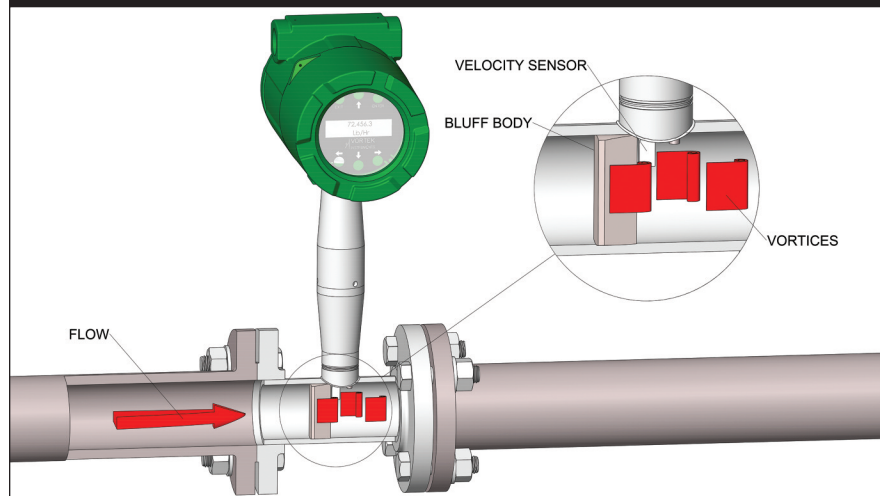

Figure 4. Coriolis flowmeters
□ Figure 4. Pneumatic scotch-yoke fail close actuator
Generally, the same technologies used near the well are available for API 6D applications. In fact, other than special valve considerations and probable power supply source availability issues, there really is very little difference in the basic automation functionality between 6A and 6D applications. The few differences—available power source, experience with the application and the total cost of ownership—can make some solutions more prevalent for certain applications (Figure 4).
Coriolis mass flowmeters (Figure 4) use the properties of mass to measure the mass flow of liquids and gases. These meters can also measure density and allow determination of the volumetric flow. Most Coriolis mass flowmeters have an internal temperature measurement that approximates the temperature of the flowing fluid.